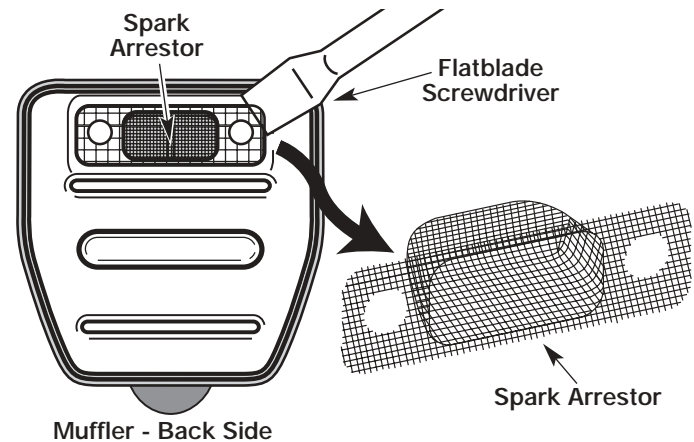

Fig. 42
4. Using a small flatblade screwdriver, carefully pry up the spark arrestor from the recessed hole (Fig. 42). Remove the spark arrestor from the muffler.
5. Clean the spark arrestor with a wire brush. Replace it if it is damaged or if it is impossible to clean thoroughly (Fig. 42).